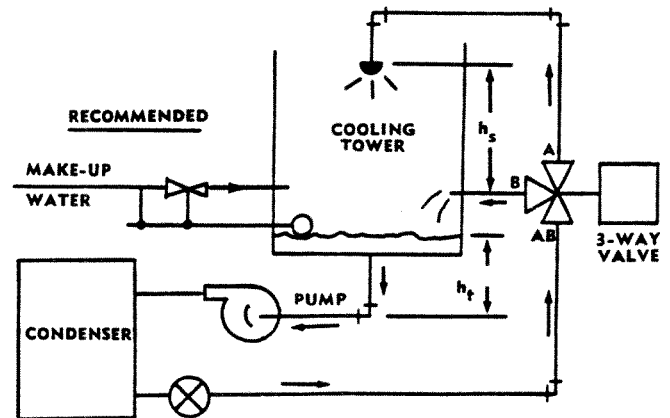

FIG. 14A
C. Recommended (Fig. 14A): The above problems can be overcome by locating a diverting type three-way valve at the cooling tower piped to by-pass to the tower sump. This location has several advantages:
For the diverting application shown in Fig. 14A, when the valve size is 5" or above, it will often pay to consider the use of two butterfly valves mounted on a common tee and linked together for positioning from one control actuator, rather than specifying a more expensive globe type three-way diverting valve. The characterized flow characteristics of the butterfly valves will normally provide stable control when sized for sufficient pressure drop as outlined above. Although usually not a requirement for this application, tight-closing butterfly valves may be obtained by calling for the rubber-lined type, but these require more powerful actuators for the same size valve.